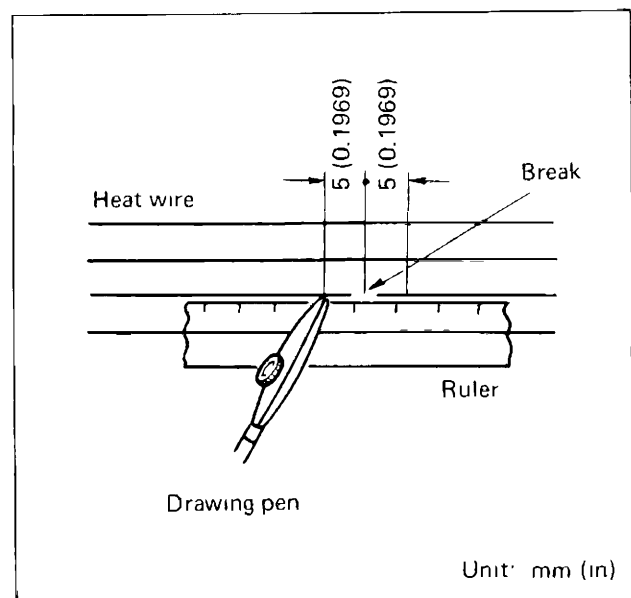

Fig. BE-47 Locating ruler in position
- Place ruler on glass along broken line to be repaired as shown in Figure BE-47. Deposition of conductive silver composition to break line with drawing pen. Slightly overlap existing heat wire either side [5 mm (0.1969 in) preferable] of the break.